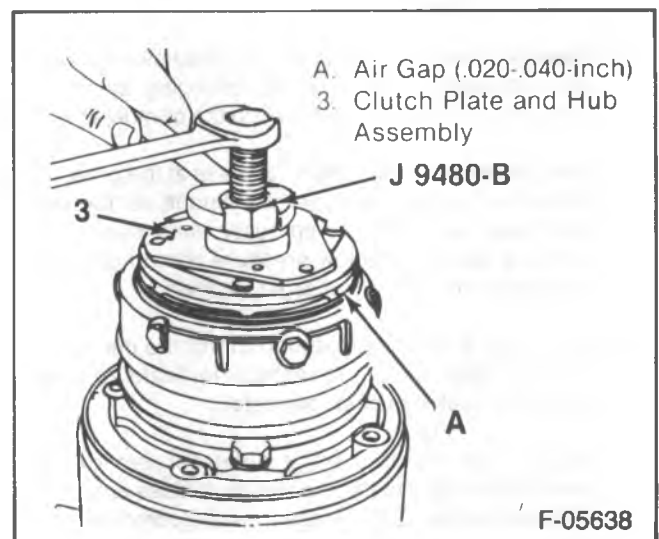

Figure 35—Installing the Clutch Plate and Hub Assembly
3. J 9480-B on the compressor (figure 35).